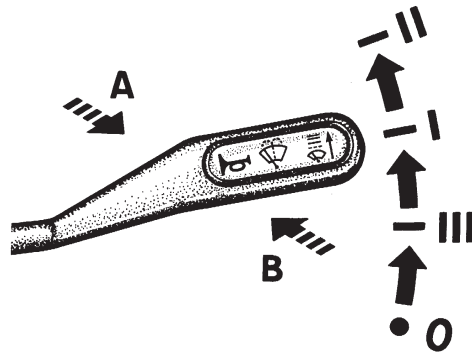

Fig. 5.6. Windshield wiper and washer lever positions (with horn)
1) On some of the vehicles the horn is switched on by means of windshield wiper and washer control lever (see Fig. 5.6).
In case the control lever is equipped with horn switch (fig. 5.6), to turn on windshield wiper and washer momentarily push the lever from position 0 in the direction of arrow "A" and to turn on the horn pull the lever (from any position) in the direction of arrow "B".